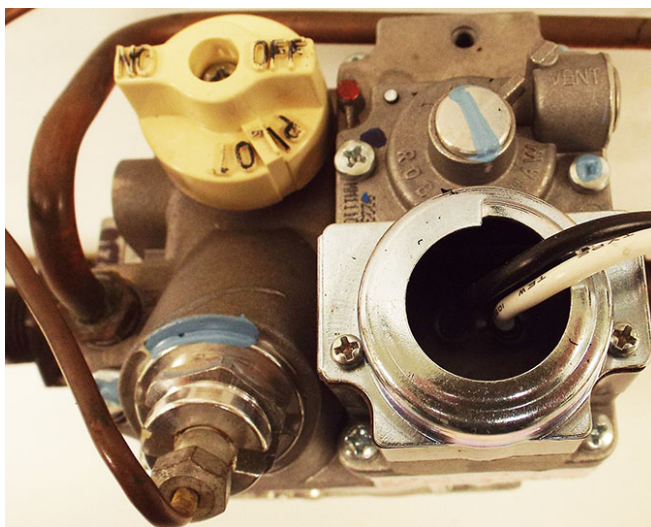

Figure 2–15. Combination gas valve.
Figure 2–15 shows a combination gas valve. It is a “combination” gas valve because it has a manual main valve, solenoid valve, a pressure regulator, and adjustment and safety shutoff for the pilot.
Since there are so many different gas valves we will cover their general operation. Basically, the valve will receive a signal to open and close. In modern times, this signal is commonly sent from a control board. See figure 2–16 and figure 2–17. Figure 2–16 shows an orange wire and the yellow wire right next to it.
**NOTE:** Look inside the green circle of figure 2–16.
These orange and yellow wires are attached to the valve shown in figure 2–17. The board will close the valve when the space is satisfied or if there is a safety condition that requires the valve to be closed.